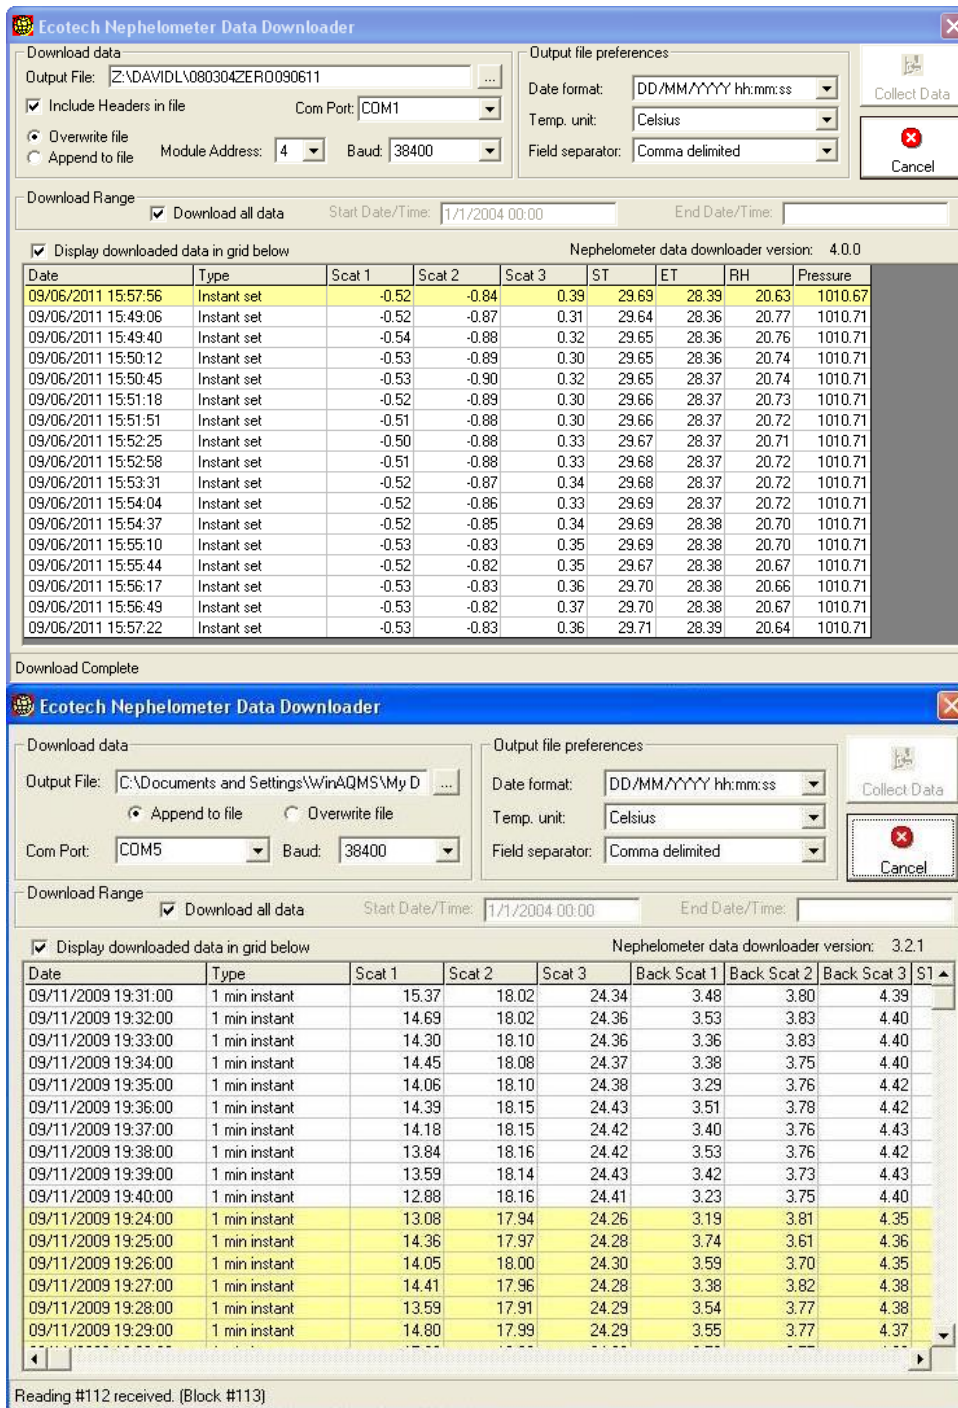

Figure 27 – Aurora data downloader
1. Open the Aurora Data Downloader software where the following window is displayed as in Figure 27. The bottom left hand corner of the window displays the current status.